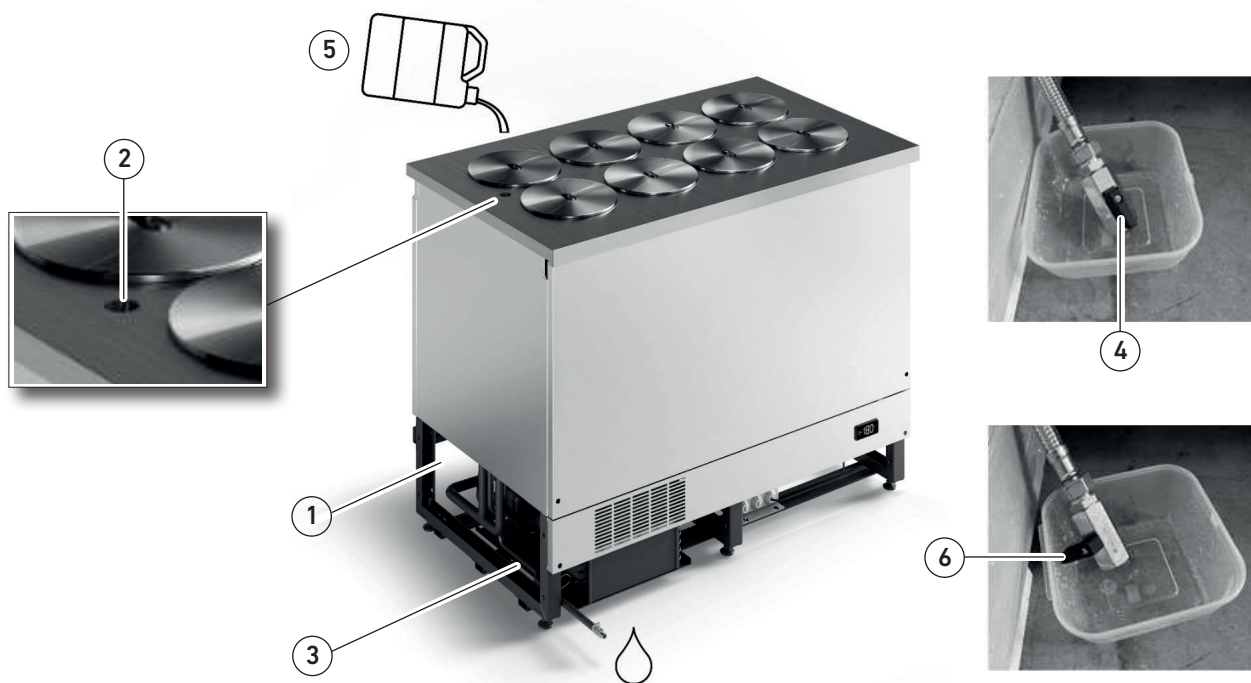

fig. 11
- Remove the bottom panel (fig.11 part.1).
- Remove the push-button filler cap on the top (fig.11 part.2).
- Locate and lay out the hose so that it can be placed outside the machine (fig.11 part.3).
- Place the hose with the tap inside a collection container (fig.11 part.4) and open it.
- Pour in the pre-mixed glycol (fig.11 part.5), until the liquid leaves the hose.
- Close the tap (fig.11 part.6) and place the hose inside the technical compartment.